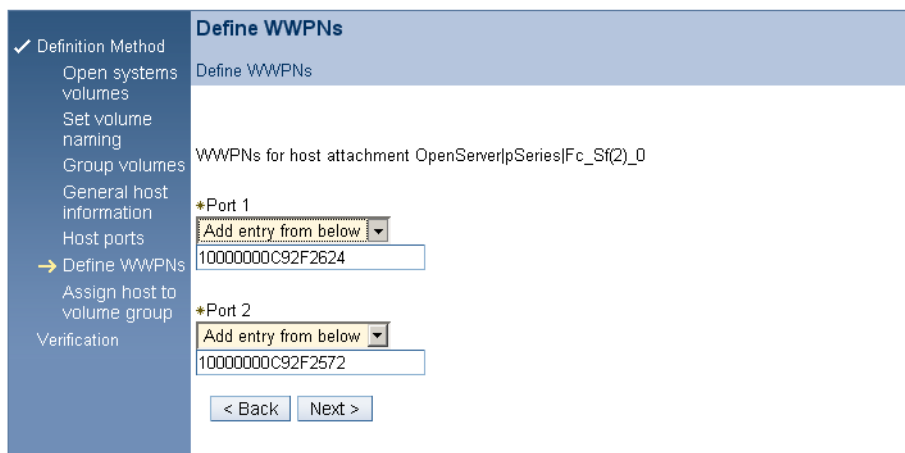

Figure 11-9 Express configuration: Defining the WWPNs for the host attachment
- Choosing **Next** opens the Define WWPNs window, Figure 11-9, where you can specify the 16-digit WWPNs of the host ports for your host attachment.